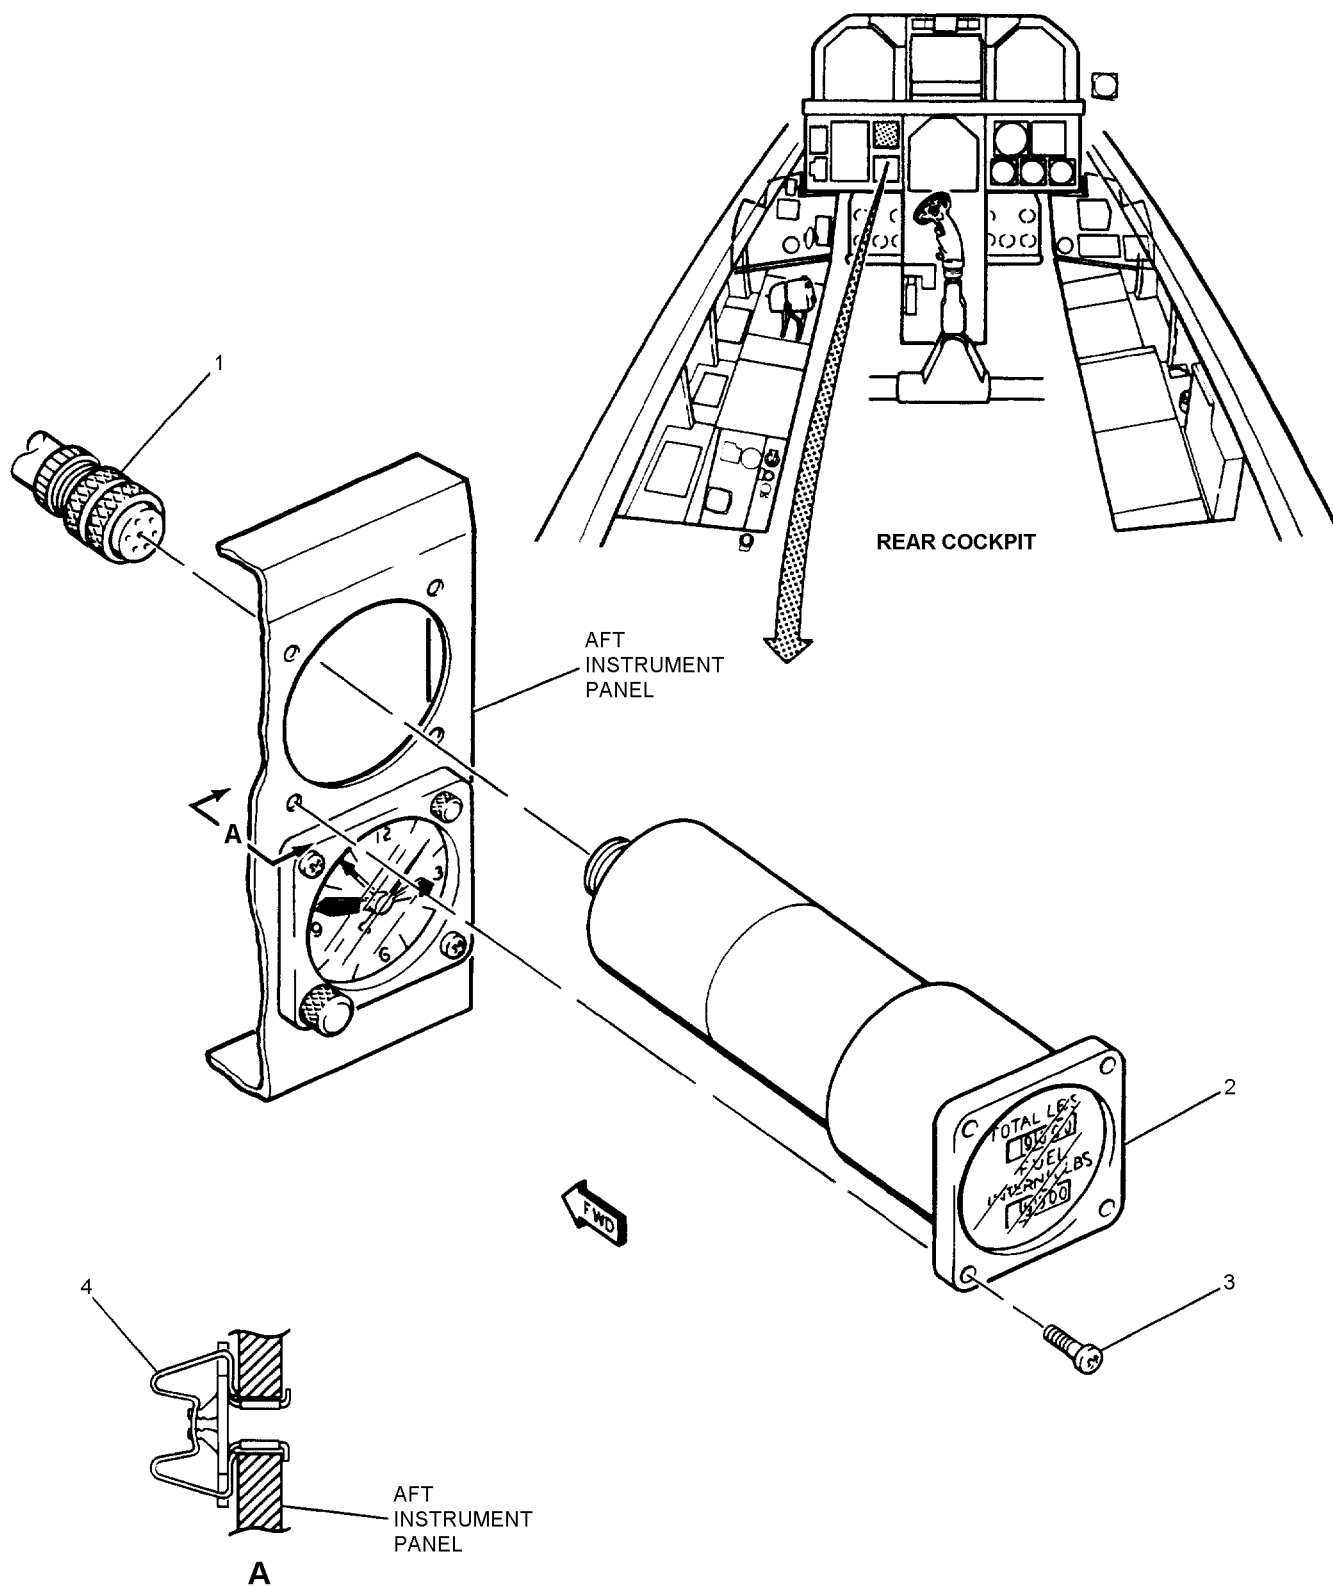

Figure 1. Fuel Quantity Repeater Indicator (5A-K015) (Sheet 1)
- c. Pull out indicator (2) and disconnect connector (1).
- b. Connect connector (1, figure 1) to indicator (2).
- c. Install indicator (2) with screws (3).